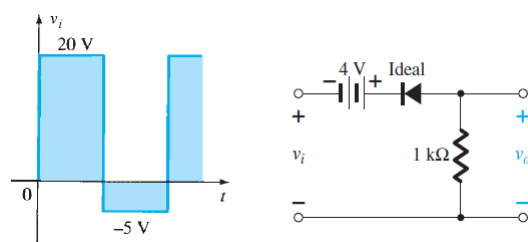

Figure 9.4.1: Response to a series clipper.
1. Connect the circuit as shown in Fig. 9.4.1 with certain modifications.